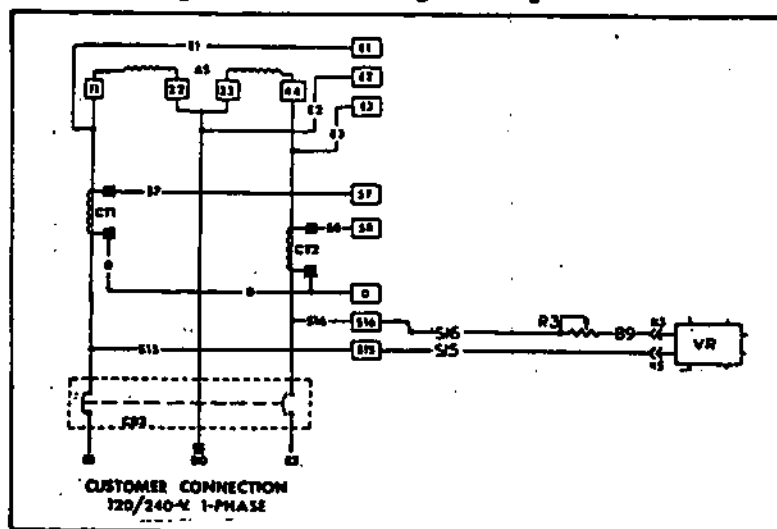

Figure 3.2-D. The Voltage Adjust Potentiometer Circuit
3.2.9- TRICKLE CHARGE DC AMMETER (Figure 3.2-A)